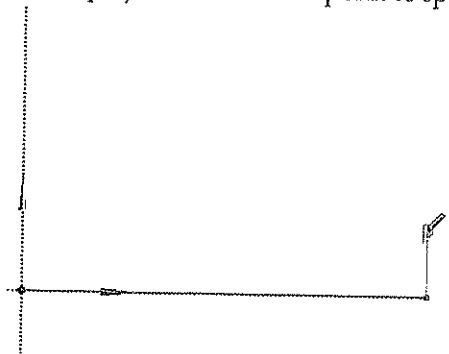

Figure 3-23 Specifying the startpoint of the line 3
11. Now, move the cursor close to the end point of line 2 created in the last step; the symbol of Coincident Point constraint (P) is displayed. Click at that point to specify the first point of line 3, as shown in Figure 3-23.